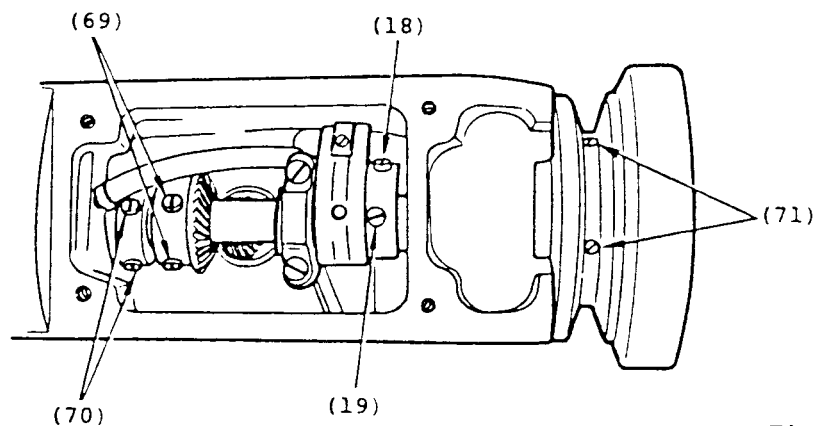

Fig. 33
6. Loosen set screws (18) and (19) in the feed and feed lifting eccentric.
7. Loosen the two set screws (69) in the bevel gear and the two set screws (70) in the thrust collar.
8. Loosen the two set screws (71), Fig. 33, and remove the machine pulley.